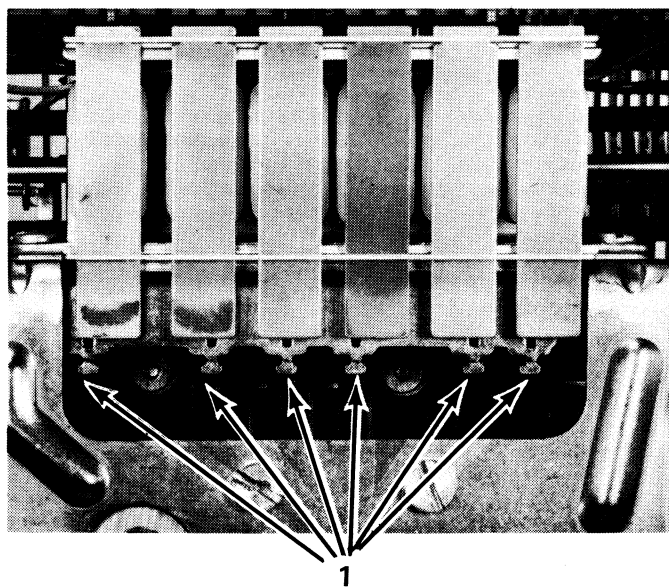

Figure 4-22. Tilt Selection Differential Removal (Bottom of Printer)
3. Disconnect the tilt and rotate clevis and remove them from the links (No. 1, Figure 4-22).